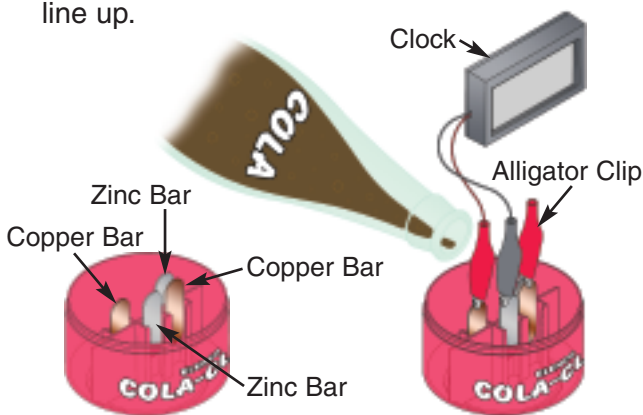

Figure 2
- Insert the copper and zinc metal bars into the bottom section as shown in Figure 2.